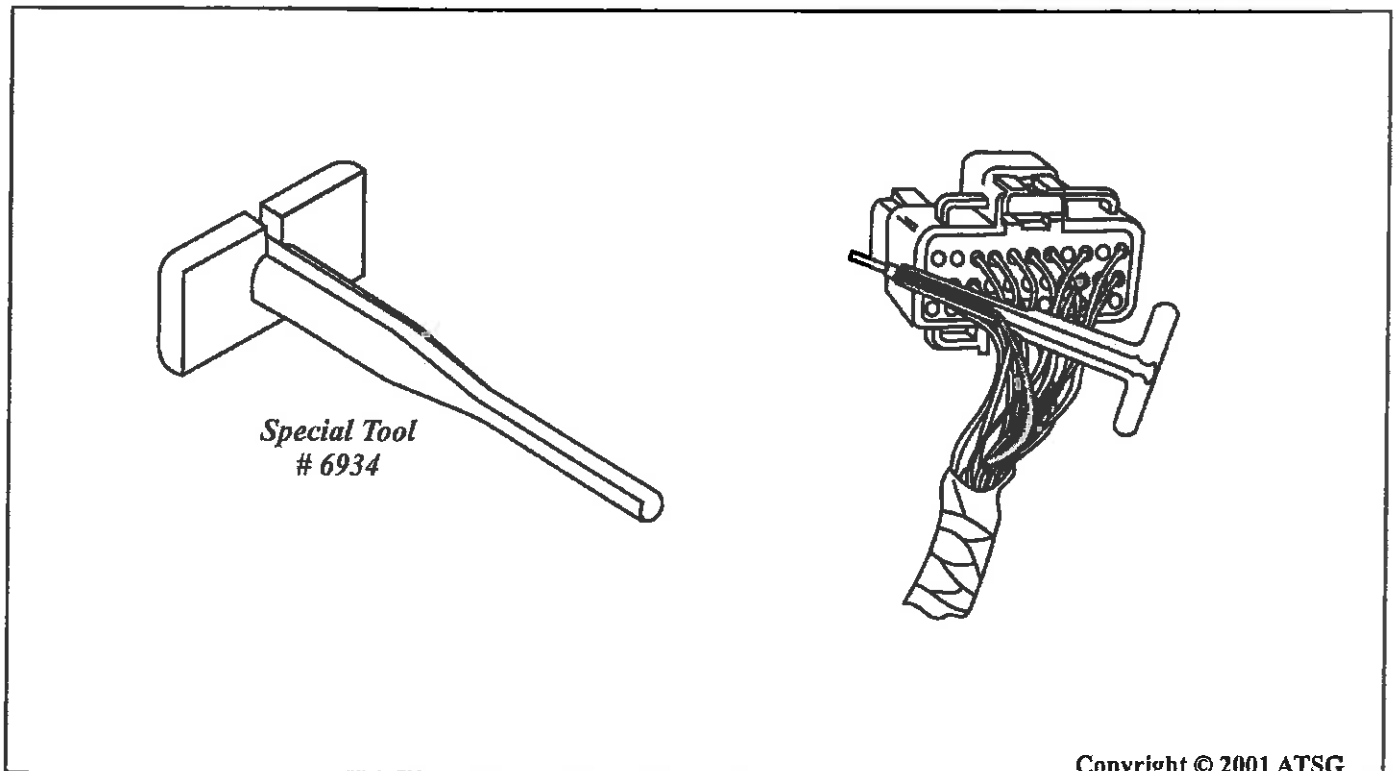

Figure 5
8. With Chrysler's special tool 6934 or one similar, insert the tool into the back of the insulator cavity alongside each wire removing them from the connector assembly one at a time as seen in Figure 5.